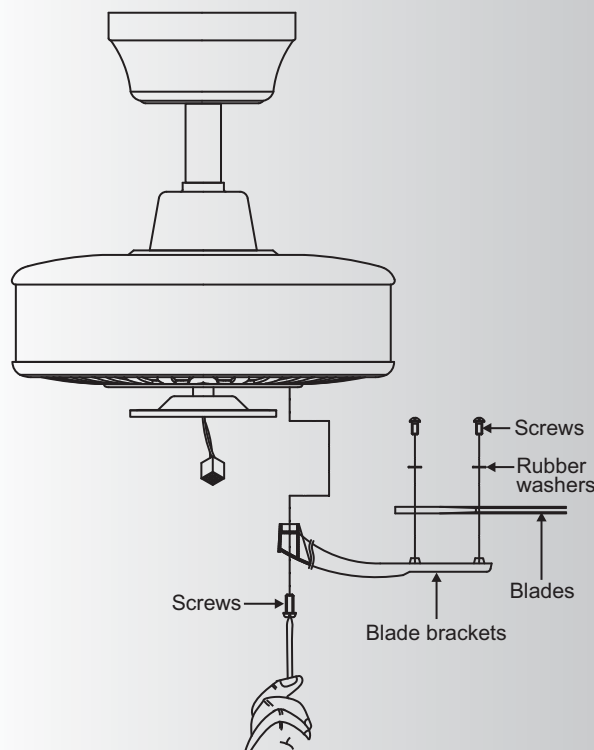

Fig. 15
Step 1. Attach a blade to a blade bracket using the screws and rubber washers provided. (Fig. 15)
Step 2. Attach each blade assembly to the motor using the "Pre-Installed" mounting screws in the blade bracket. (Fig. 15)